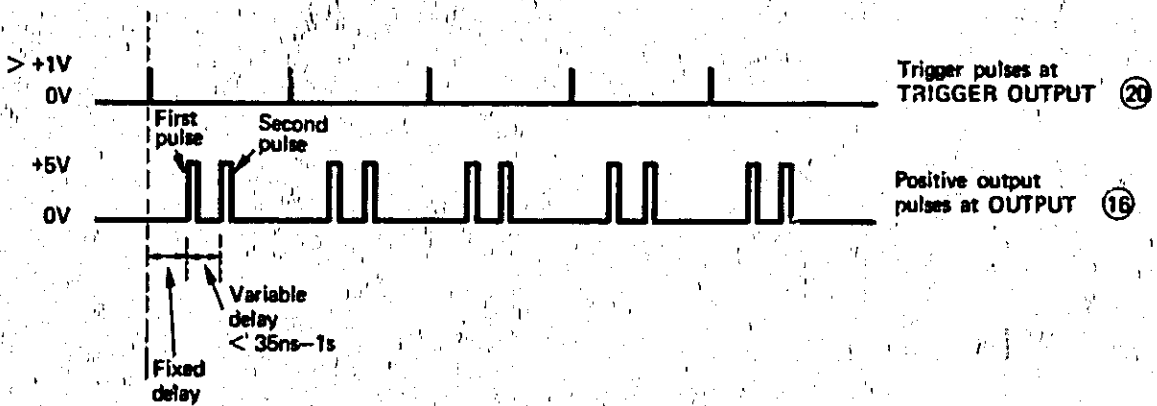

Figure 3-21, Output pulses in double pulse mode
3-49. The trigger and output pulses should appear at the TRIGGER OUTPUT (20) and OUTPUT (16) connectors as shown in Figure 3-21.